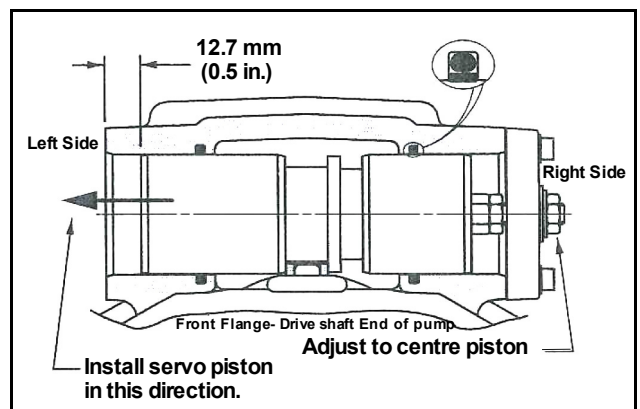

Figure 5-114. Servo Piston Installation
4. Screw the cover plate onto the servo piston assembly. Install new cover plate gasket in place on housing. Install servo piston assembly and cover plate into servo piston bore in right side of housing (as shown in Figure 5-114. Retain cover plate with four each washers and Capscrews. Torque Capscrews 40 to 48 in.lbs (4.5 to 5.4 Nm). To obtain neutral, centering the servo piston assembly is required. Measure in from the left side and set servo piston 0.5 in. (12.7 mm) from surface of housing servo bore as shown in Figure 5-114.